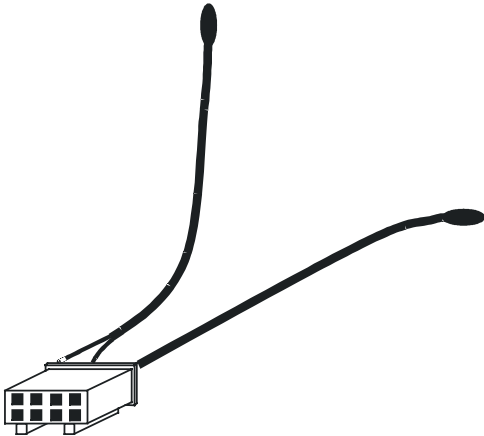

Figure 2 "Connector with two model 1998-1999 temperature sensors "
- c- Insert the temperature sensors into the appropriate connector on the back of the control unit panel. For this model the connector is the one shown in Figure 2;
- b- Insert the temperature sensors into the appropriate connector on the back of the control unit panel. For this model the connector is the one shown in Figure 2;